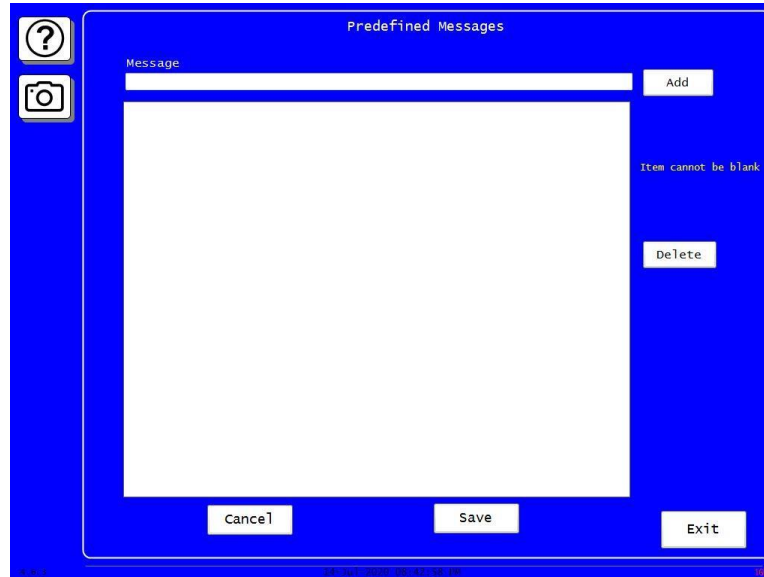

Figure 3-23. Predefined Messages Screen
1. In the Messaging Setup screen (see *SETUP EMAIL*, page 114), press Message List. The Predefined Messages screen appears, Figure 3-23.